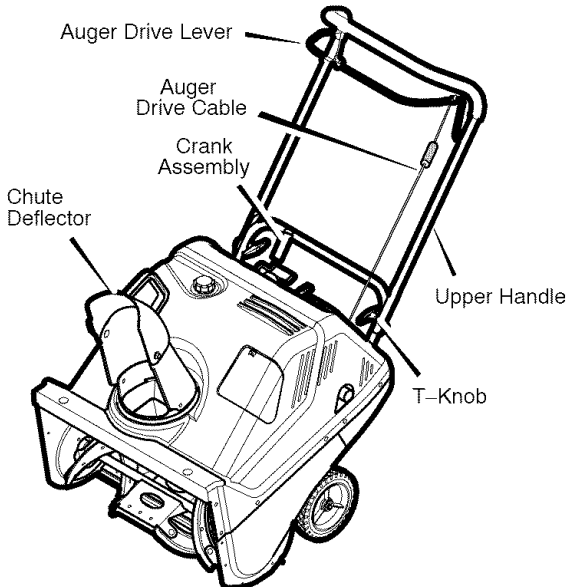

Figure 1
Figure 1 shows the snow thrower in the operating position.
1. Remove the **T-knobs** and U-bolts (Figure 1).
4. Attach the **auger drive cable** to the **auger drive lever** (Figure 1).